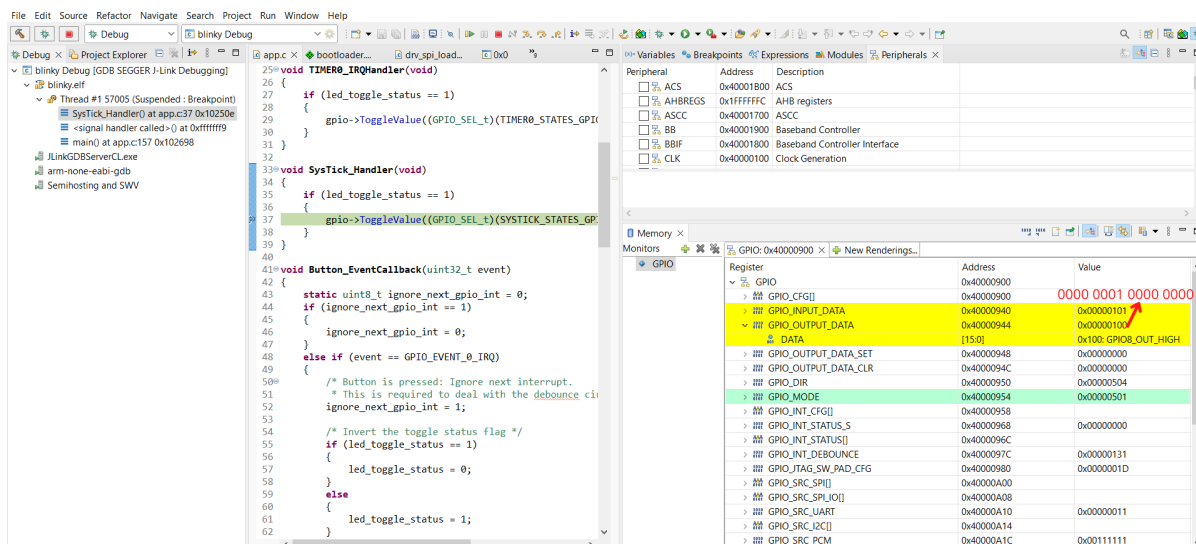

Figure 18. Toggling RSL15 GPIO Using the Peripheral Registers View: After
7. To manually change the register value, click on the Value field of the GPIO register to change the (HIGH/LOW) state of GPIO8 and GPIO10. The figure "Toggling RSL15 GPIO Using the Peripheral Registers View: After" (Figure 18) illustrates the view after making the change. You can observe that the LED (GPIO8 and GPIO10) on your board changes state.